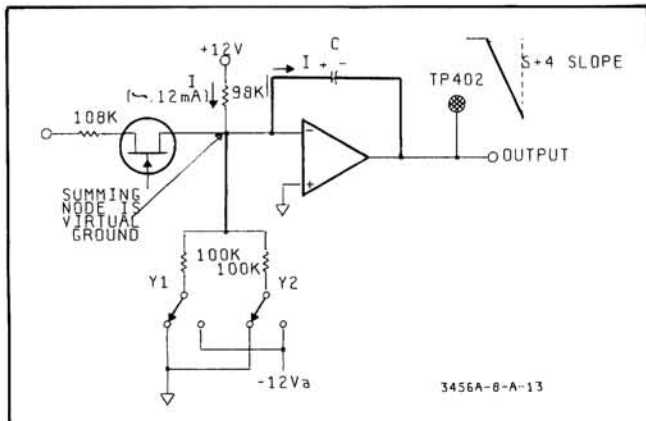
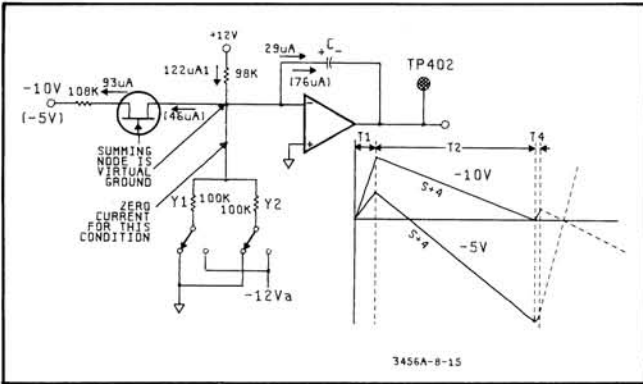
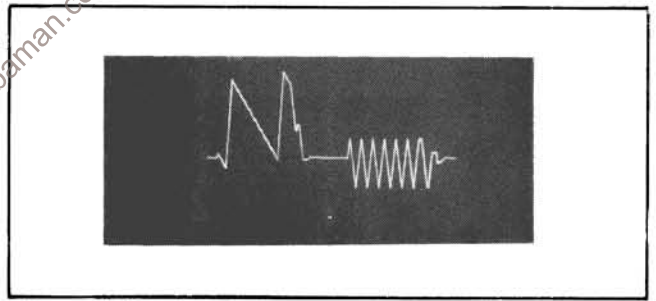

Figure 8-13. Simplified Schematic Of S+4 Slope Generation Circuit.
Figure 8-15. Slope Generation When Input Signal Voltage and Slope Voltage are Added.
Figure 8-24. A/D Converter Waveform for $-10V$ Input, Autozero Enabled.
8-61. **S + 4 and S - 4 Slope Generation.** Figures 8-13 and 8-14 are simplified illustrations that show the slope generation concept used by the 3456A. The lower ends of both Y1 and Y2 circuit paths are switched to ground to generate an S + 4 slope (see Figure 8-13). For this condition, there is no current flow between the summing node (virtual ground) and the grounded Y1/Y2 circuit paths. Current (I) from the +12 V reference supply flows through the summing node into the integrating capacitor (note polarity of capacitor charge). Consequently at the beginning of the T2 time period, the integrator capacitor will be charged to a level and polarity based on the input signal amplitude and polarity. The negative going S + 4 slope reduces (discharges) the initial charge on the integrator capacitor at a slower rate for the -10 V input ($29 \mu\text{A}$) than it does for the -5 V input ($76 \mu\text{A}$). Figure 8-15 shows that $122 \mu\text{A}$ is applied to the summing node (virtual ground) from the +12 V supply. With the -10 V input, $93 \mu\text{A}$ flows through the 108 k ohm resistor towards the signal source. The remaining $29 \mu\text{A}$ will reduce the integrator capacitor charge as shown by the output signal. When the input signal is -5 V, $76 \mu\text{A}$ is used to reduce the charge on the capacitor. This accounts for the steeper slope (discharge rate).
8-63. **Slope Generation With Input Signal Applied.** Figure 8-15 illustrates the circuit currents for -10 V and -5 V input signals (applied to the A/D Converter) for an S + 4 slope. A S + 0 is turned on during the T1 time period. This allows the integrator capacitor to charge up as a result of just the input. Consequently at the beginning of the T2 time period, the integrator capacitor will be charged to a level and polarity based on the input signal amplitude and polarity. The negative going S + 4 slope reduces (discharges) the initial charge on the integrator capacitor at a slower rate for the -10 V input ($29 \mu\text{A}$) than it does for the -5 V input ($76 \mu\text{A}$). Figure 8-15 shows that $122 \mu\text{A}$ is applied to the summing node (virtual ground) from the +12 V supply. With the -10 V input, $93 \mu\text{A}$ flows through the 108 k ohm resistor towards the signal source. The remaining $29 \mu\text{A}$ will reduce the integrator capacitor charge as shown by the output signal. When the input signal is -5 V, $76 \mu\text{A}$ is used to reduce the charge on the capacitor. This accounts for the steeper slope (discharge rate).
8-82. Figure 8-24 is the waveform for a $-10V$ (full-scale) input (.1 PLC) with the front panel Autozero enabled. Fewer zero-crossings occur when the input voltage is increased because the S+4 slope angle is less steep. This is due to the interaction of the higher input voltage with the reference voltage as explained in Paragraph 8-63 and Figure 8-15.